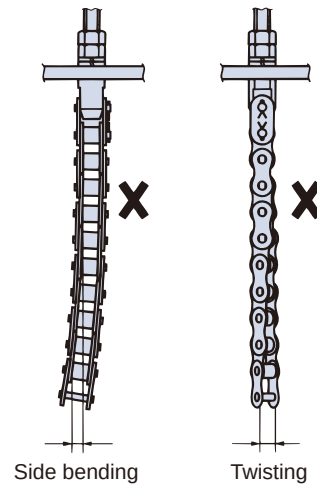

Fig. 29 Twisting of the roller chain
- 4) Inspect for twisting and side bending of the roller chain. If partial twisting or side bending of the chain occurs, the complete roller chain should be replaced. (Fig. 29)